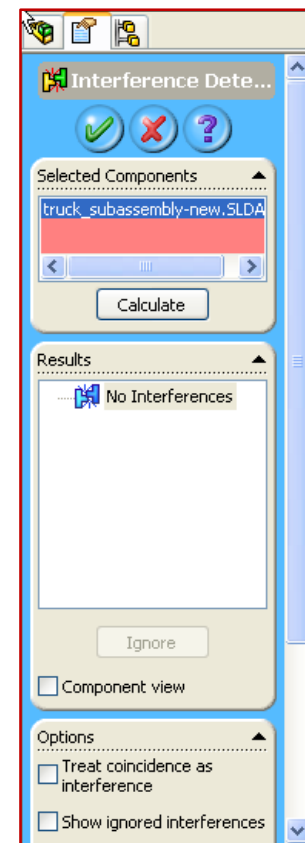

Figure 11.1 – Checking for Interference in the Assembly
- ✓ On the **Main Drop-down Menu**, select **Tools→Interference** to get the menu in Figure 11.1. There should be no interferences detected as shown in the figure.